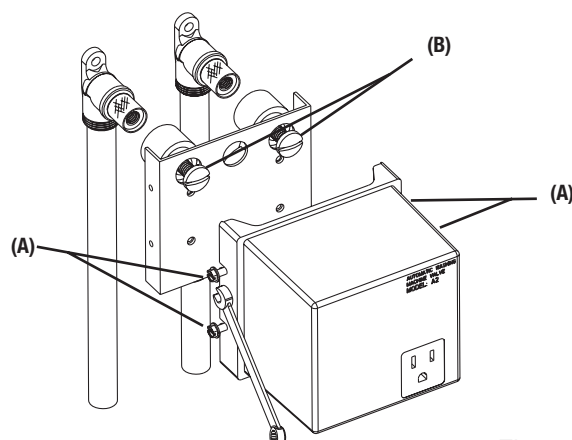

Figure 1
- A4. Remove the cover by loosening the four (4) 1/4" hex head screws (A) using a 1/4" open end wrench. (See Figure 1)
- A5. Remove the A2 by unscrewing both slotted screws (B) on the top of the valve. Go to step #6.